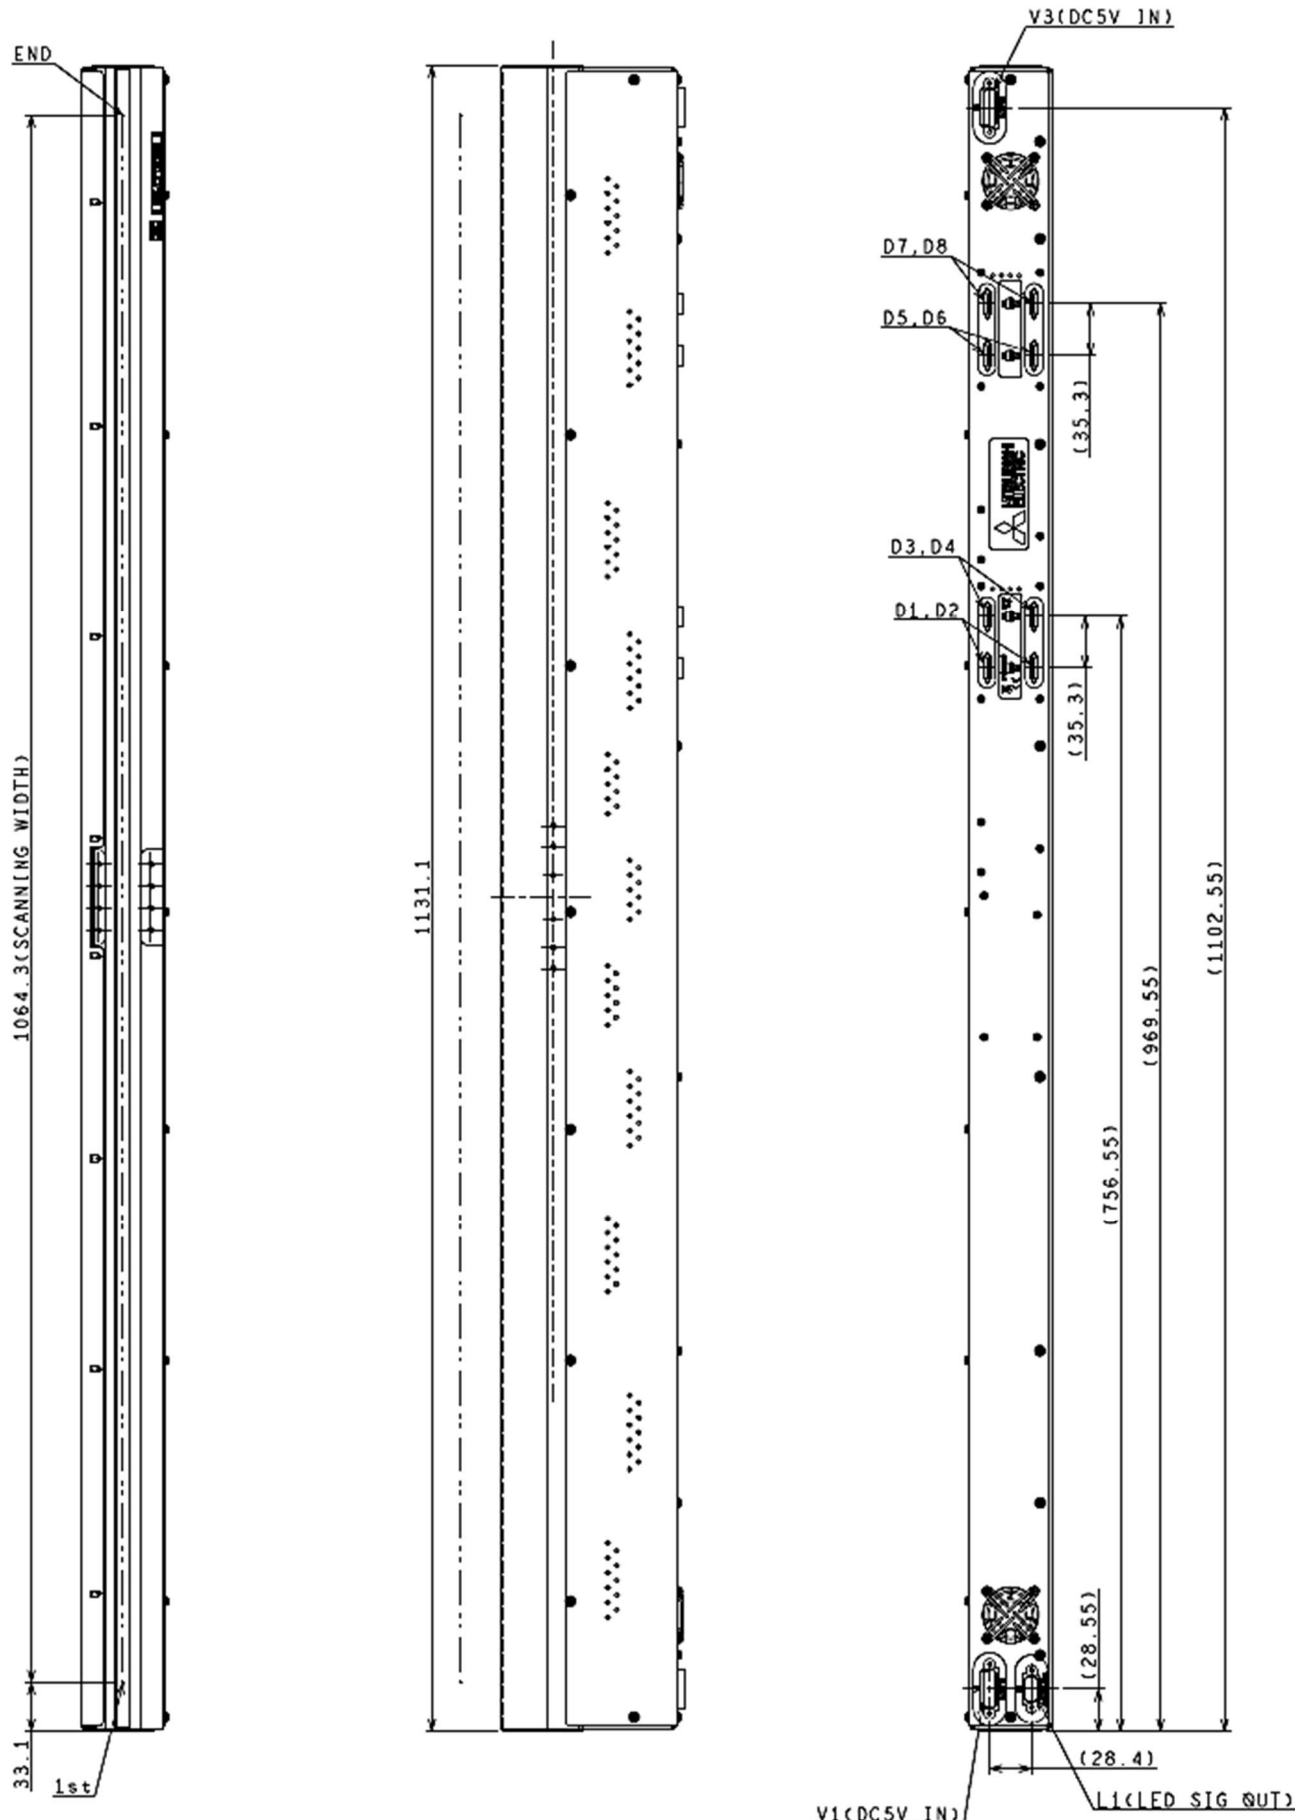

Fig.5 KD6R1064DXL-NL Outline drawing (at 24°C)
- 1) Keep this Product's boards away from sources of electrical noise, such as boards, cables, and so on. (For information on boards' position, refer to Fig.5 to 7.)
- (7) Refer the User's Manual (TM-XJ959) about handling details of this product.
- (8) The frame of this product is made by Aluminum. When designing the equipment which installs this product, please be careful of the difference of the thermal expansion coefficient between this product and the equipment which installs this product. For detail, please refer to the User's Manual (TM-XJ959).